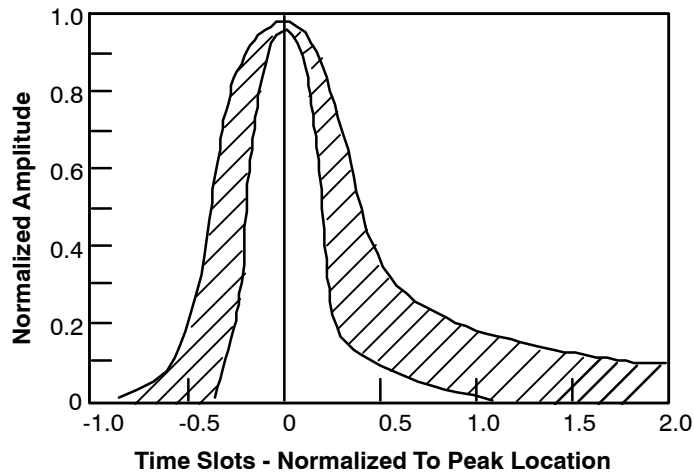
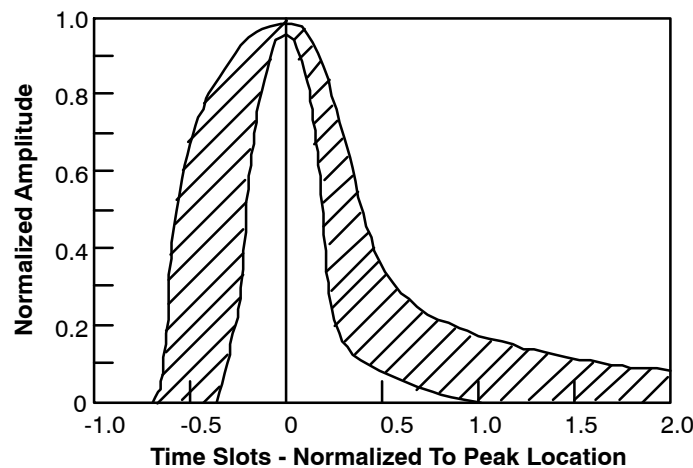

Figure 4. DSX-3 Isolated Pulse Template for ACCUNET T45 Standards
Figure 5. DSX-3 Isolated Pulse Template for G.703 Standards
requirements exist: the ACCUNET T45 pulse template (see *Table 2* and *Figure 4*) and the G.703 pulse template (see *Table 3* and *Figure 5*). *Table 2* and *Table 3* give the associated boundary equations for the templates. The XRT7295AT correctly decodes any transmitted signal that meets one of these templates at the cross-connect.
| Pulse Shape | An isolated pulse must fit the template in NO TAG or Figure 5 . ¹ The pulse amplitude may be scaled by a constant factor to fit the template. The pulse amplitude must be between 0.36vpk and 0.85vpk, measured at the center of the pulse. |
- ¹ The pulse template proposed by G.703 standards is shown in *Figure 5* and specified in *Table 3*. The proposed G.703 standards further state that the voltage in a time slot containing a 0 must not exceed 5% of the peak pulse amplitude, except for the residue of preceding pulses.
Table 2. DSX-3 Pulse Template Boundaries for ACCUNET T45 Standards (See *Figure 4*.)
Table 3. DSX-3 Pulse Template Boundaries for G.703 Standards (See Figure 5)